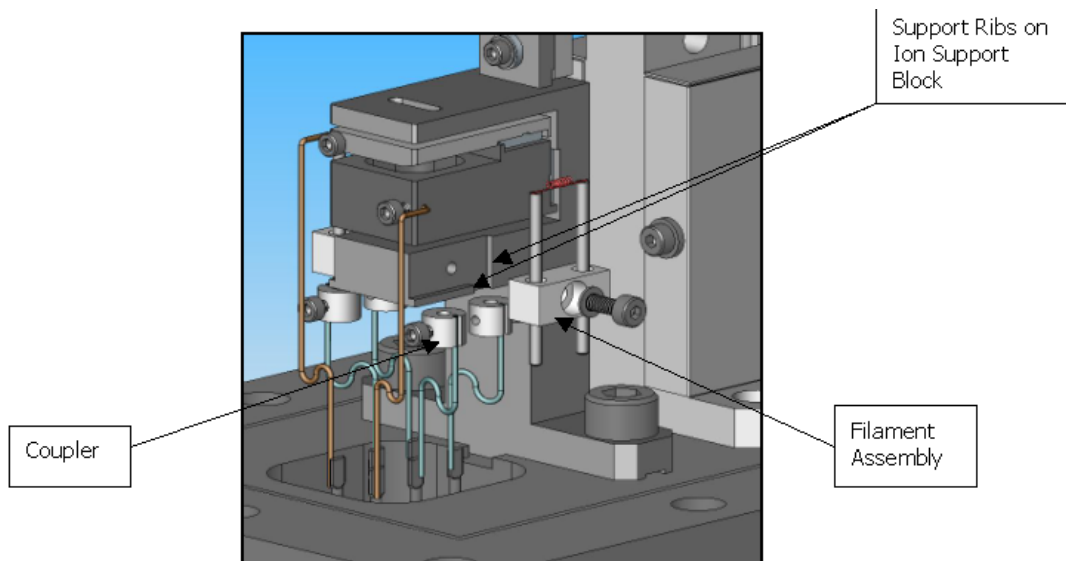
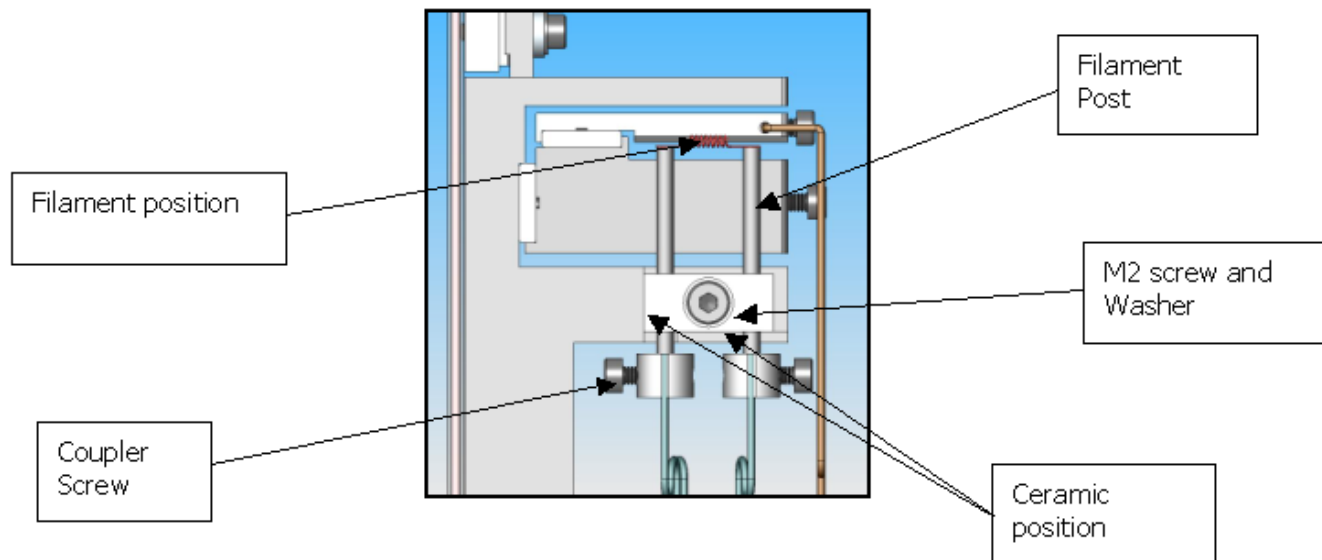
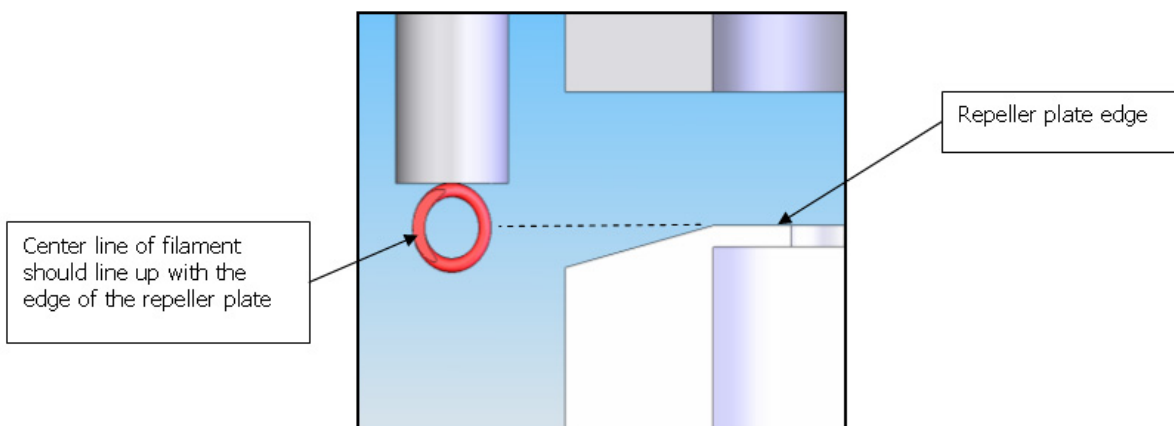

Figure 9: Coupler and Filament Assembly
Figure 10: Filament Position
Figure 11: Filament Alignment
13. Remove the two M4 support screws (Figure 9: Coupler and Filament Assembly).
17. Connect the collimator wire to the collimator plate using an M1.5 screw (Figure 10: Filament Position).
18. Insert the chamber and extractor wires into the ion support assembly (Figure 11: Filament Alignment).
20. Guide the ceramic against the bottom and side ribs of the ion source support block (Figure 9: Coupler and Filament Assembly and Figure 10: Filament Position). Correct positioning of filament is critical for proper spectrometer operation.
21. While holding the filament in position, insert the M2 screw and washer and tighten (Figure 10: Filament Position).
22. Tighten the coupler screws onto the filament posts (Figure 10: Filament Position).
23. Verify ceramic is tight against the bottom and right side ribs. Ensure that the filament is positioned in the slot of the ion source as shown (Figure 10: Filament Position and Figure 11: Filament Alignment).